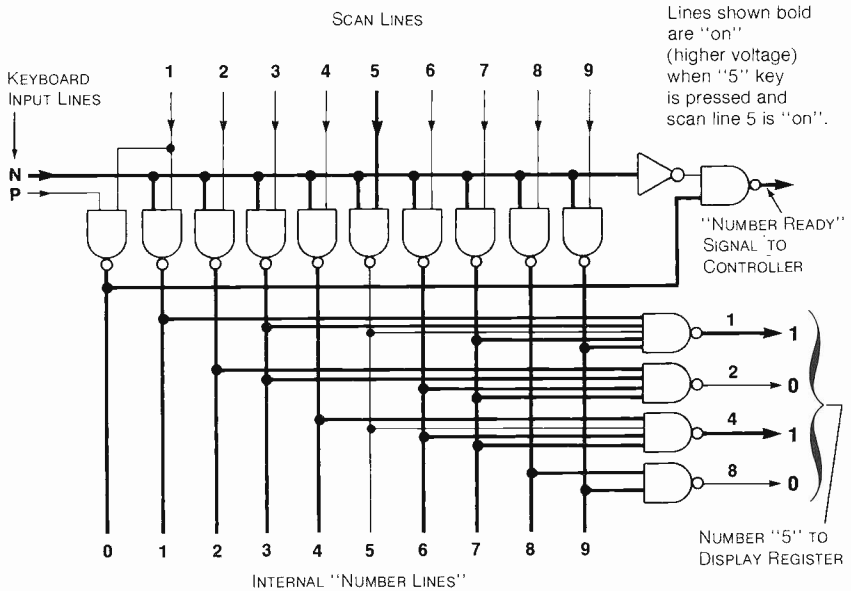
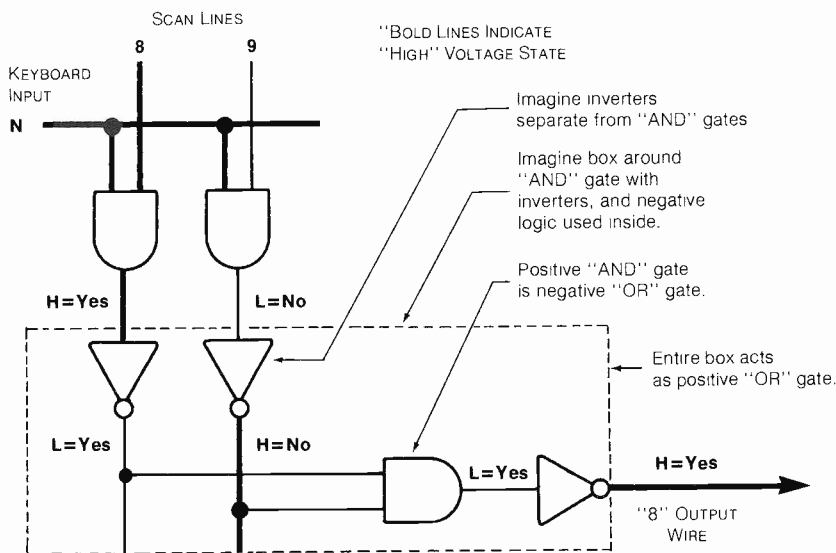

Figure 2-18. How to build the decoder from *Figure 2-8* by using positive NAND gates and an inverter, as in a real MOS integrated circuit chip
Figure 2-19. Imagining NAND gates feeding a NAND gate as AND gates feeding an OR gate
Finally now, we’re ready to see how our keyboard encoder could be built using real MOS gates. *Figure 2-18* shows one way to do it (assuming positive logic, as usual).
Let’s narrow our scope down to making sense out of the three NAND gates that act together to produce the signal in the “8” output wire in *Figure 2-18*. That’s the very bottom NAND gate and the two above that receive scan lines number 8 and 9. These three NAND gates are shown by themselves in *Figure 2-19*.
As shown in *Figure 2-19*, the first step in understanding what’s really going on here is to *imagine* that each positive NAND gate is a positive AND gate and an inverter. Then imagine a box around the lower imaginary AND gate and all three inverters. Notice that inside this box, we’ve got *negative logic*! This is because a *low* voltage in a number line means *yes*, this key is pressed. And a low voltage in the AND gate output means yes, key 8 OR key 9 is pressed.
But let’s get back to the imaginary box in *Figure 2-19*. *In our mind*, we can replace this entire box – AND gate, inverters and all – with a positive OR gate. That is, a positive AND gate with inverters on all inputs and the output, when taken all together, make a positive OR gate.
(You can also prove to yourself that three *negative* NAND gates arranged as in *Figure 2-19* act as two negative AND gates followed by a negative OR gate. And this means that the same thing holds for both kinds of NOR gates. They act as OR gates followed by AND gates.)
Looking back at *Figure 2-18*, you should understand that there’s *no negative logic anywhere in the diagram*. The NAND gates here are all *positive* NAND gates. We’ve just *imagined* negative logic being used, to help us understand that NAND gates with inverted input signals act as OR gates. This helped us to follow the “logic” of the NAND network.